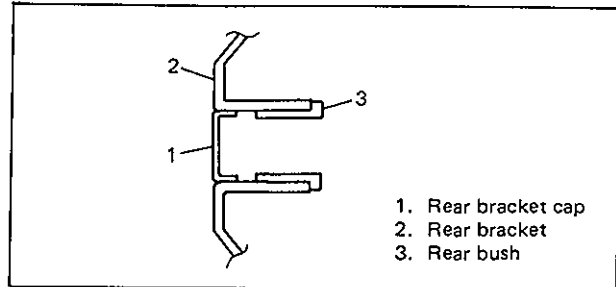

Fig. 6G-12-2
- 3) Apply grease. (Refer to Fig. 6G-2.)